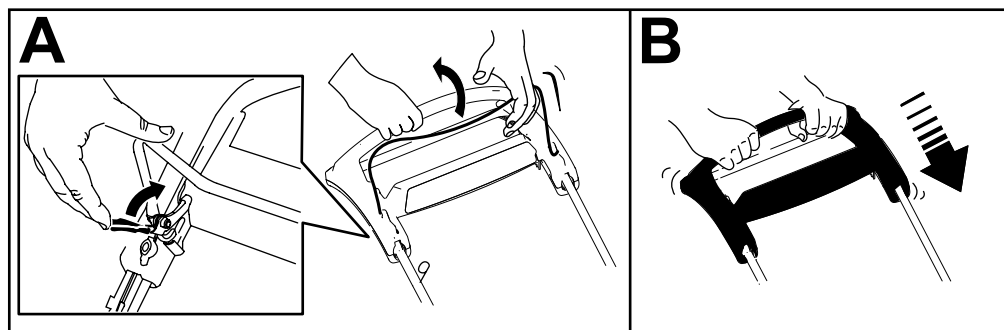

Figure 16
1. Pull the control-bar lock back (A of Figure 16).
2. Pull the blade-control bar to the handle (A of Figure 16).
3. Hold the blade-control bar against the handle and use the self-propel drive (B of Figure 16).